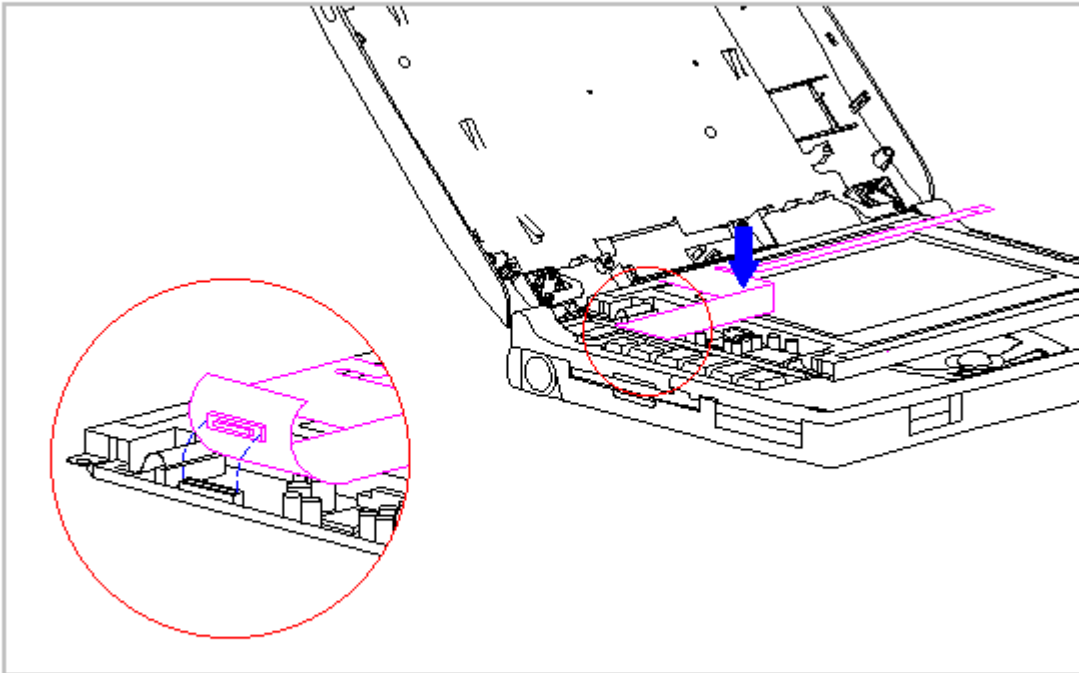

Figure 3-121. Connecting the Display Cable to the CTFT (8.4 inch) Panel (Models 400 and 410)
1. Connect the display cable to the connector on the back of the CTFT (8.4 inch) panel (Figure 3-121).